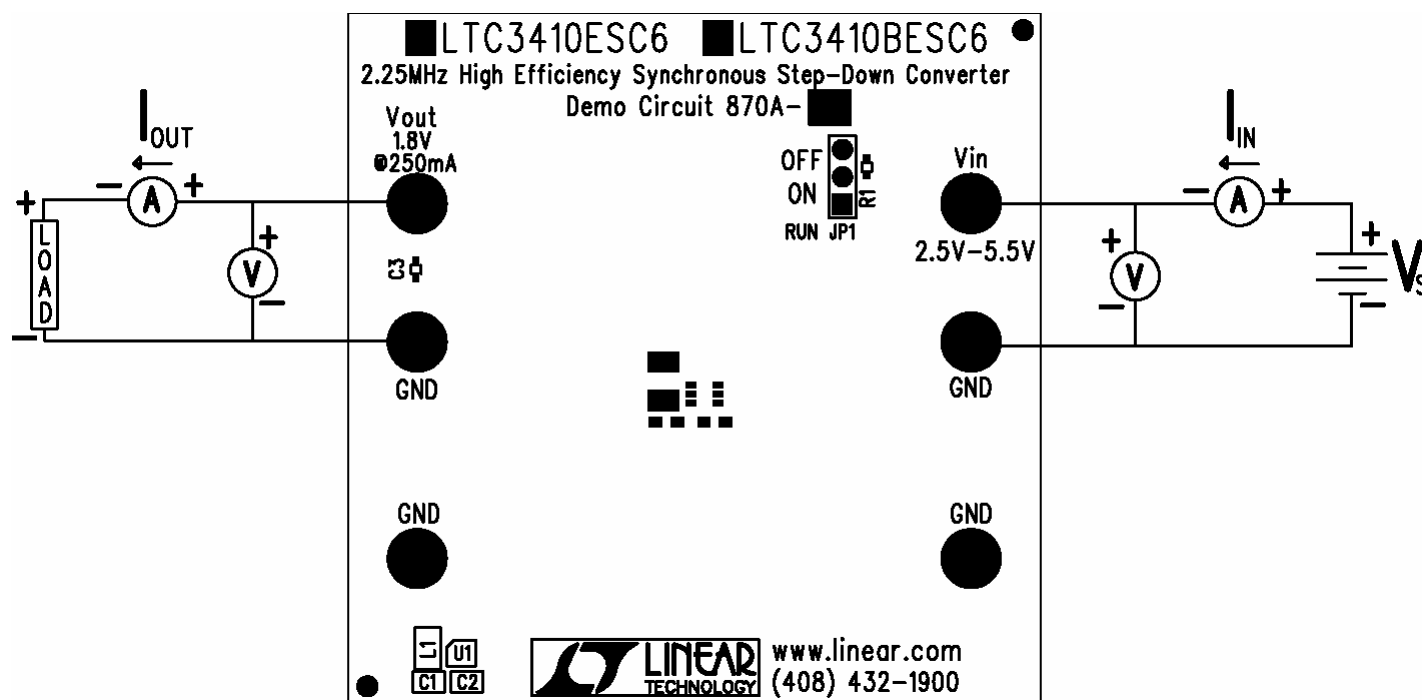

Figure 1. Proper Measurement Equipment Setup
The DC870A-A is easy to set up to evaluate the performance of the LTC3410. For proper measurement equipment configuration, set up the circuit according to the diagram in **Figure 1**. Before proceeding to test, insert shunt on jumper JP1 into the off position, connecting the RUN pin to ground (GND), which shuts down the circuit.
1. Connect the input power supply and the load to the board. Do not hot-plug V_{in} or increase V_{in} over the rated maximum supply voltage of 5.5V, or the part may be damaged. Refer to figure 1 for proper measurement equipment setup.